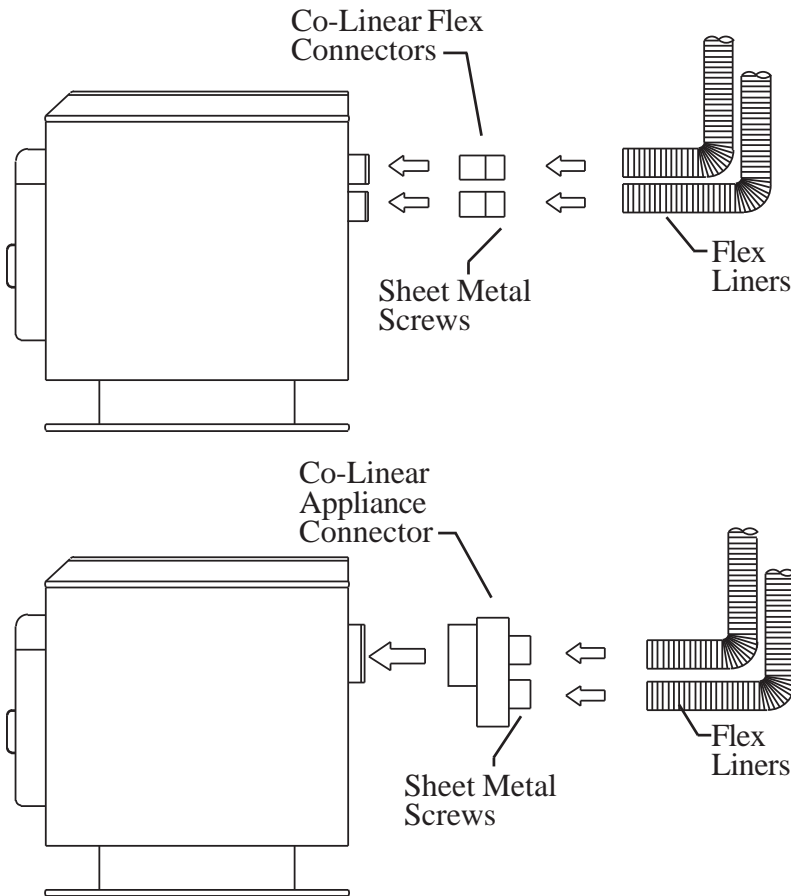

Figure 9
Step 9. Depending upon the type of connection that your appliance has, it will require either the Co-Linear Flex Connectors or a Co-Linear Appliance Adapter in order to attach the Flex Liners to the appliance. For the Co-Linear connection, attach the Co-Linear Flex Connectors to the two outlets on the back of the appliance. See the appliance manufacturer's instructions for details. Connect the two Flex Liner runs to the Connectors using four sheet metal screws each. For the Co-Axial connection, install the Co-Linear Appliance Connector to the adaptor on the appliance. Attach the Flex Liners to the Appliance Connector using four sheet metal screws each. **(Figure 9)** In either case, make sure the Flex Liners do not sag behind the appliance. Finally, move the appliance into its appropriate place.